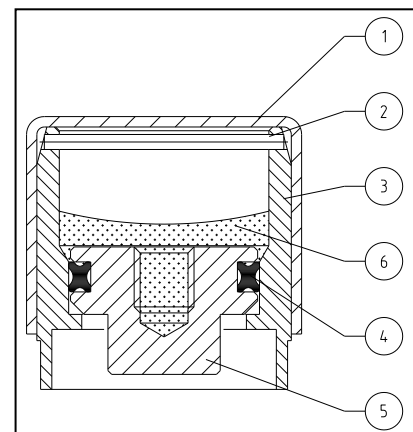

figure 3; *Pump valve*
Position the pump valve house (Fig 3, pos.3) in the opening in the jacket. Check whether the opening is properly covered by the pump valve house. Now weld the pump valve house fixed in the jacket.
Prior to the next steps the pump-out tool needs to be prepared. You need a pump-out tool and the remaining parts of the pump valve. Lightly grease the Quad-ring (Fig.3, pos.4) with vacuum grease (For example: Dow Corning, type: High Vacuum Grease). Then fit the plug, with Quad-ring on the spindle of the pump-out tool (M8 thread). Screw the plug lightly onto the spindle. Do not use any tools. Remove the spindle from the pump-out tool in the top position, and turn the spindle in such a way that it locks in the highest lock. Check whether the outside of the pump valve is actually clean. Store the valve pump-out tool during step 11 and 12 in a clean and dry environment.
Connect a vacuum pump to the pump-out tool. Now vacuumise the space in the welded coupling up to a vacuum level  $< 1 \times 10^{-3}$  mbar. Once this vacuum level has been reached, the pump valve can be closed. Turn the spindle of the pump-out tool out of the height locking, and slowly push the spindle downwards. When the plug comes into contact with the house of the pump valve, you must push the plug in the pump valve house using a certain amount of force, until you feel that the plug touches an end stop. Also refer to figure 3. Now break the vacuum at the vacuum pump side.
If necessary, the welded coupling can be checked on leakage by a helium leakage tester. Connect the helium leakage tester onto the pump-out tool. Vacuumise the space in the pump-out tool to a vacuum level  $< 1 \times 10^{-3}$  mbar. Pull the spindle slowly upwards so the plug will come out of the pump valve housing. Turn the spindle of the pump-out tool in the height locking. Check whether all welds are leak tight (acceptance criteria  $1 \times 10^{-9}$  mbar·l/sec). Turn the spindle of the pump-out tool out of the height locking, and slowly push the spindle downwards. When the plug comes into contact with the house of the pump valve, you must push the plug in the pump valve house using a certain amount of force, until you feel that the plug touches an end stop. Also refer to figure 3. Now break the vacuum at the vacuum pump side.
Finally the pump valve must be further finished. Apply vacuum grease to the top of the plug which is visible in the pump valve house. In particular the transition zone between the plug and the pump valve house must be properly greased. The grease is clearly shown in figure 3, pos 6.
Insert the supplied small shaft  $\varnothing$  2 mm (Fig.3, pos.2) through the holes at the top of the pump valve house. Finally place the plastic protection cover (Fig.3, pos.1) over the pump valve. Now the welded coupling is completely fitted.